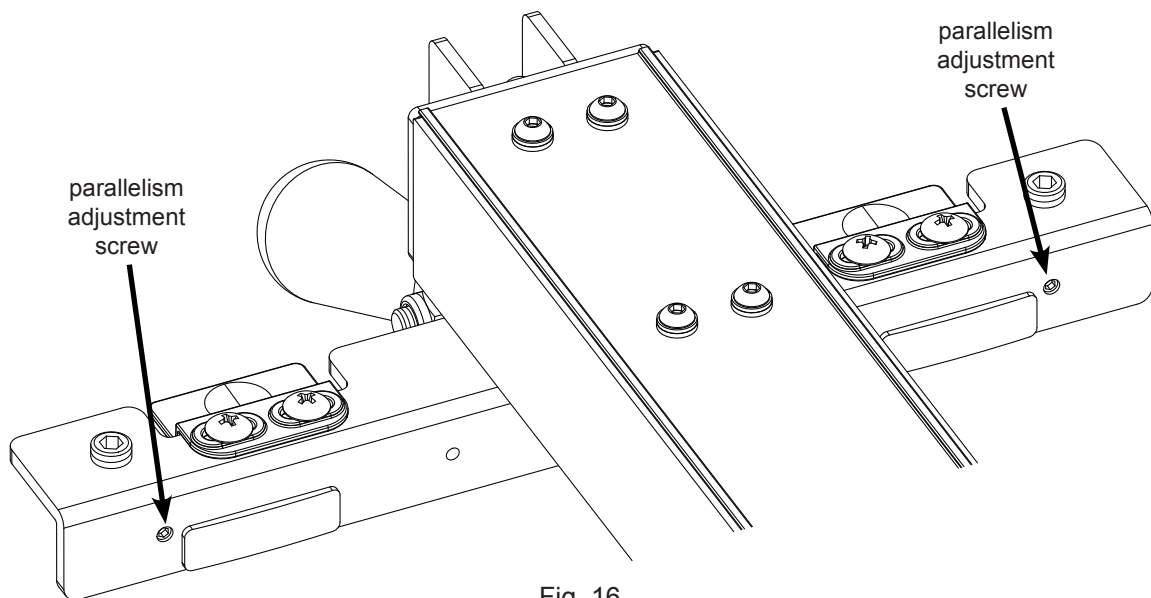

Fig. 16
16. Press down on the fence handle to clamp the fence to the main tube. If the fence does not clamp tightly enough to hold its position against a moderate amount of force, you can increase the clamping pressure by turning both parallelism adjustment screws clockwise using a 3 mm hex key. Those screws are located in the vertical portion of the fence cross-bracket (see Fig. 16). Alternatively, if too much force is required to push the fence handle down to clamp the fence to the main tube, you can reduce the clamping pressure by turning both parallelism adjustment screws counter-clockwise.
The next step is to align the face plates to be parallel to the miter slots. Begin by sliding the fence along the main tube until the left face plate is flush with the right edge of the right miter slot. Lock the fence handle and check that the face plate is flush with the miter slot edge along its whole length (see Fig. 21). You can check this either visually or by running your finger along the face plate and miter slot edge. If there is any misalignment, you can correct it by turning one of the two parallelism adjustment screws in the vertical edge of the fence cross-bracket (see Fig. 16).